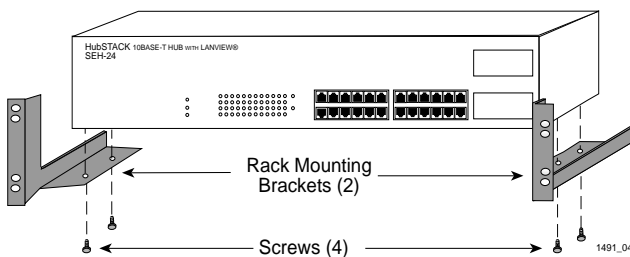

Figure 3-4. Installing the Rack Mount Brackets
Refer to Figure 3-4 and perform these steps to install the SEH in a 19-inch rack.
2. Using the four 8-32 x 1/4" screws provided in the accessory kit, attach the rack mounting brackets to the bottom of the SEH as shown in Figure 3-4.